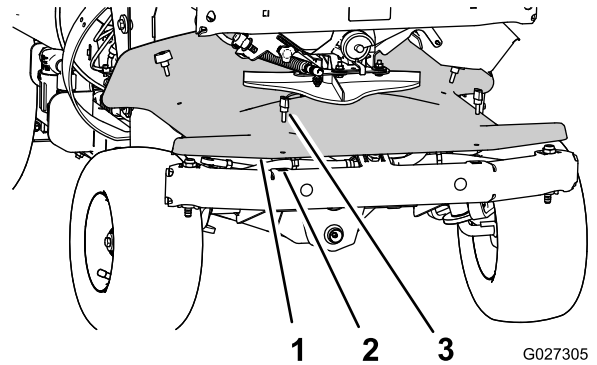

Figure 26
3. Remove the 4 thumb screws that secure the front cover (below the is below the impeller) to the chassis and remove the cover (Figure 26).